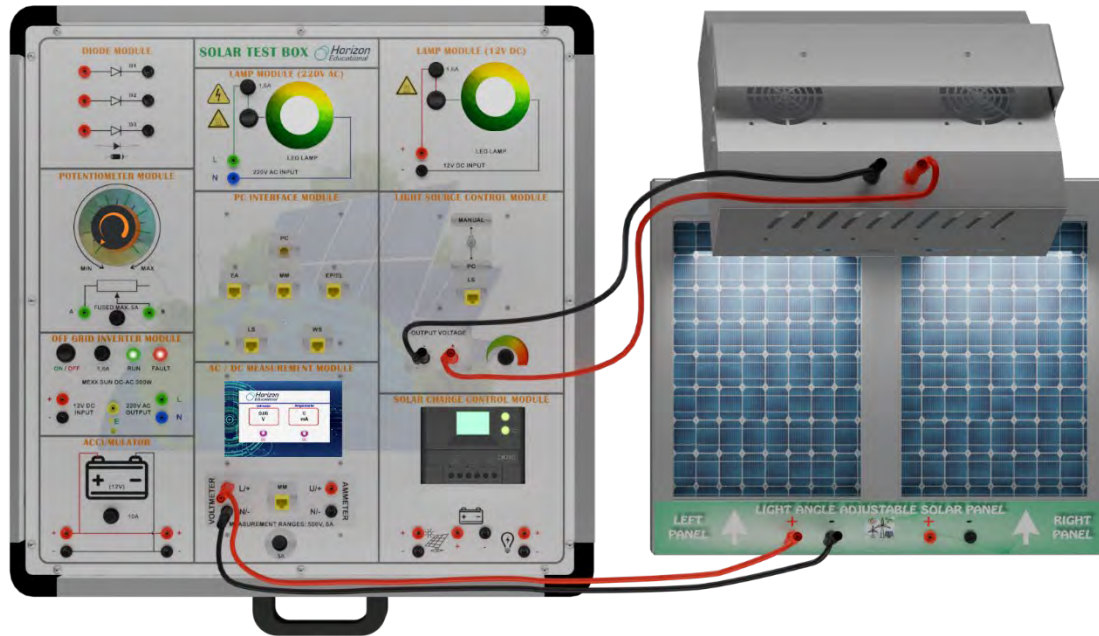

Figure-15. Installation Image of PV Panel Open Circuit Voltage Measurement Experiment
2. Set up the connections as specified in Figure-15. Ensure a consistent level of light in the laboratory to create an average scenario. Any changes to the positions of the lamps or curtains may affect the experimental outcomes.
5. Set up the connections as specified in Figure-15. Ensure a consistent level of light in the laboratory to create an average scenario. Any changes to the positions of the lamps or curtains may affect the experimental outcomes.